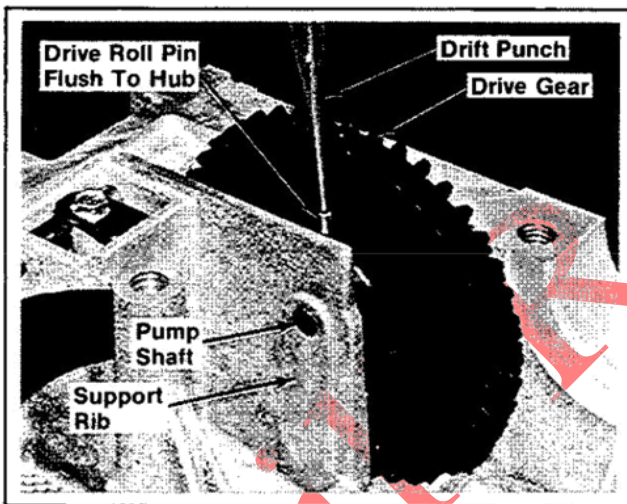

Figure 11-3. Securing Oil Pump Drive Gear To Shaft.
4. Lubricate a new roll pin with grease. Drive the roll pin until it is flush with gear hub. Refer to Figure 11-3.